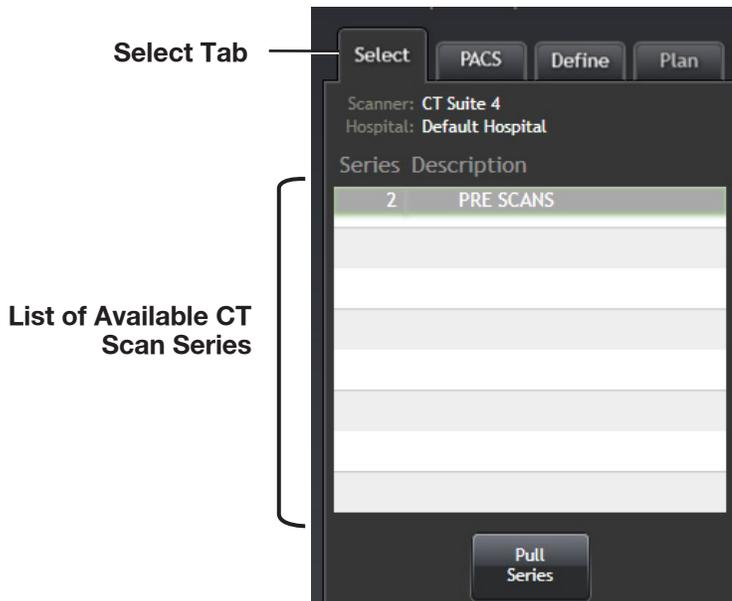

Figure 3-10: The Select Tab showing the CT Series Description list.
3. Select the newly acquired series from the list in the lower left side of the screen (Figure 3-10).
- d. After selecting the series, click the **Pull Series** button beneath the list (Figure 3-10). The application “pulls” (downloads) the series to the ABLATE-IQ Software for examination. A spinning wheel appears in the center of the screen while the series is being downloaded (click **Cancel** button if necessary). After downloading the selected series is completed, the software auto steps to the **Define** tab for the user to define the target(s). If you decide to change the CT series, you can go back to the **Select** tab and choose a different CT series.